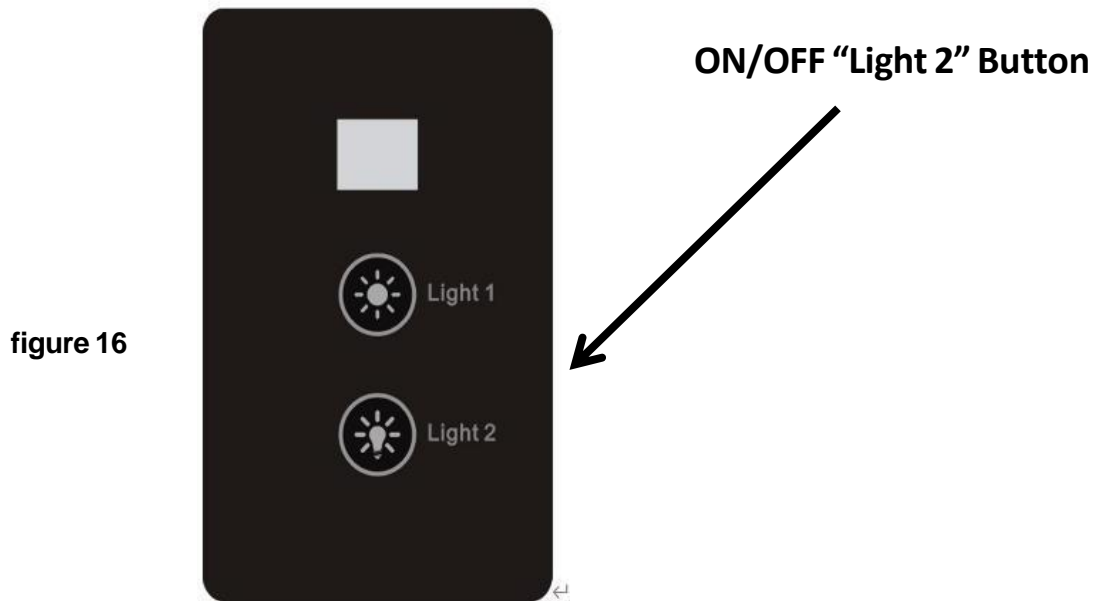

figure 15
provided (7) rain cover pushpins for each side to secure the rain cover at the front and rear of the sauna barrel. The remaining (8) rain cover pushpins are to be used to secure the horizontal edges for each side. See figure 15.